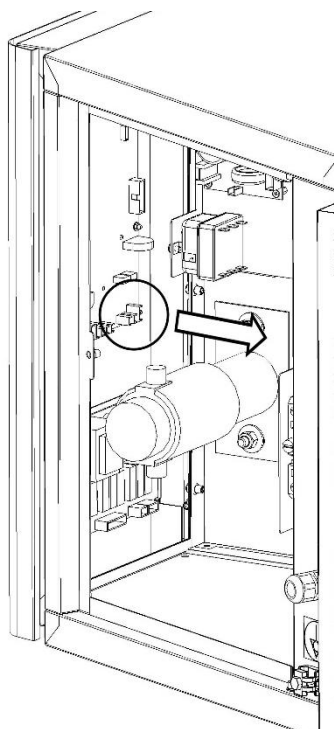

Fig.15A
- 4.Disconnect the electrical connections to the base board (Fig.15A).